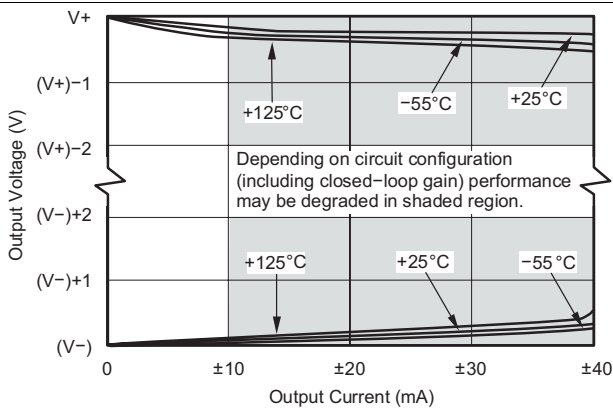

Figure 17. Output Voltage Swing vs Output Current
(4) Output voltage swings are measured between the output and power supply rails.
(5) See Figure 17.
A class AB output stage with common-source transistors achieves rail-to-rail output. For light resistive loads (>10 kΩ), the output voltage swing is typically ten millivolts from the supply rails. With heavier resistive loads (600 Ω to 10 kΩ), the output can swing to within a few tens of millivolts from the supply rails and maintain high open-loop gain. See Figure 17 and Figure 18 for more information.